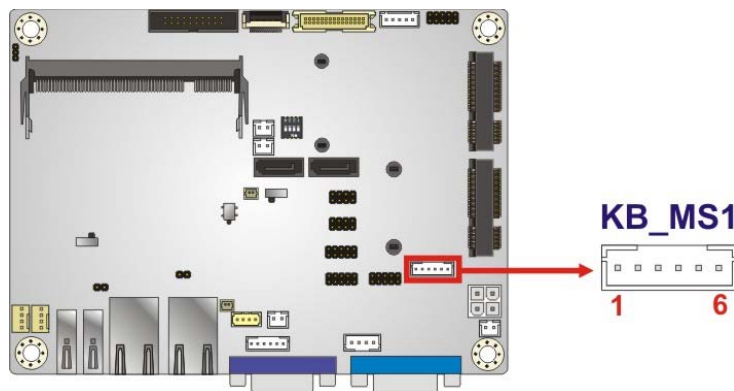

Figure 3-12: Keyboard and Mouse Location
- CN Location:** See **Figure 3-12**